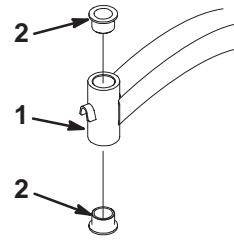

Figure 66
4. Insert a pin punch into the mounting tube and carefully drive out the bushings (Fig. 66). Clean the inside of the mounting tube.